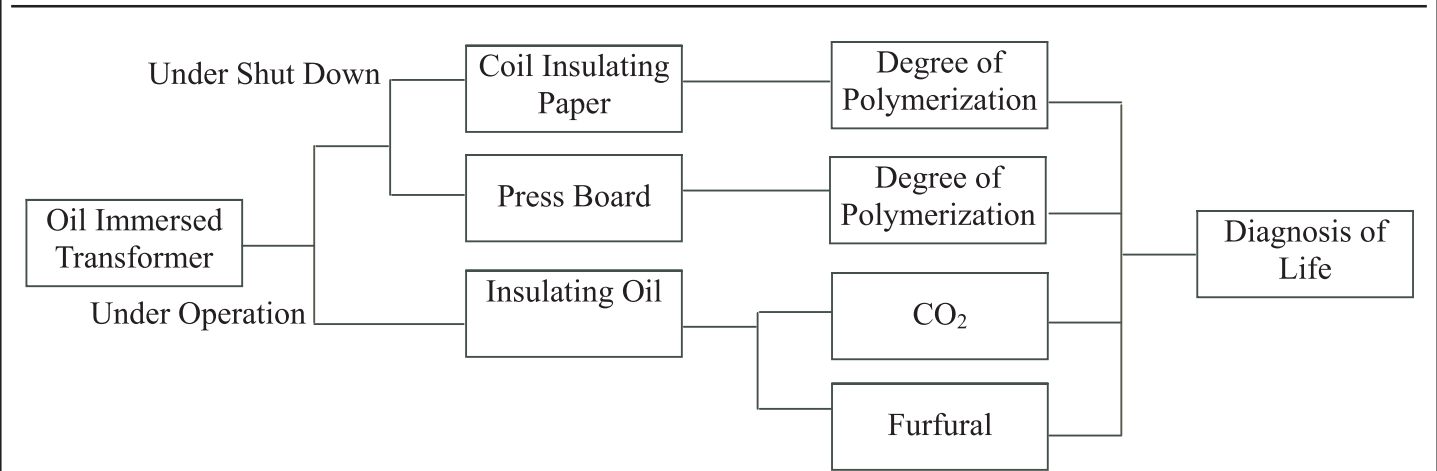

Fig.1: Diagnosis of oil Immersed Transformers
4.3.2 The Fig.1 helps the understanding of the ageing of oil, which directly reduces the useful operating life of a transformer.